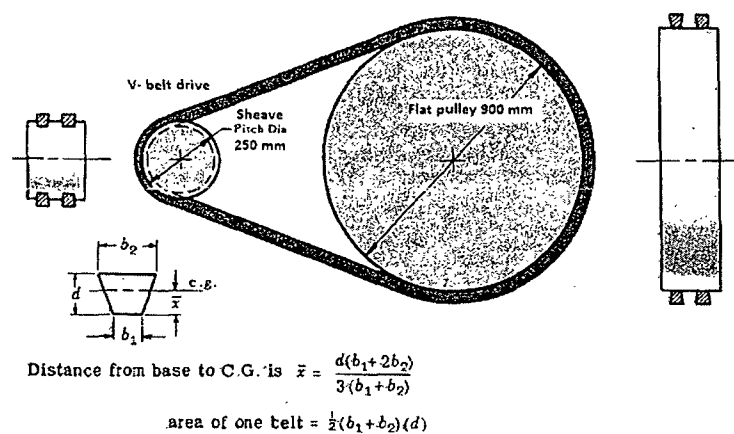

Figure 2
- 13b A V-belt drive, shown in Fig.2 is to transmit 20 kW from a 250 mm pitch diameter sheave (drum with V grooves) operating at 1800 rpm to a 900 mm diameter flat pulley. The center distance between the input and output shafts is 1 m. The groove angle $\theta = 40^\circ$, and the coefficient of friction for the belt and sheave is 0.2, and the coefficient of friction between the belt and flat pulley is 0.2. The cross section of the belt is $b_2 = 36$ mm wide at the top and $b_1 = 20$ mm wide at the bottom by $d = 25$ mm deep. Density of the belt is 27 g/cm³ and the allowable tension per belt is 900 N. How many belts are required? (Hint: analyze for one belt first) (16)